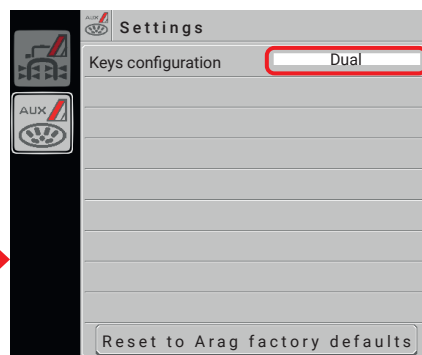

Fig. 21
- Within the Object Pool of the EXPLORER Joystick in the **Settings** menu choose the **Dual** option (Fig. 21).